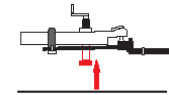

Figure 30
7. With both arms secured, lower the jack, then retract it completely. (Figure 30)